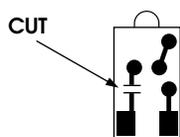

Fig. 2
■ Lay the light board out in front of you, parts side down as in Fig. 2. With a sharp hobby knife make a cut in the circuit trace as shown (Fig. 2).